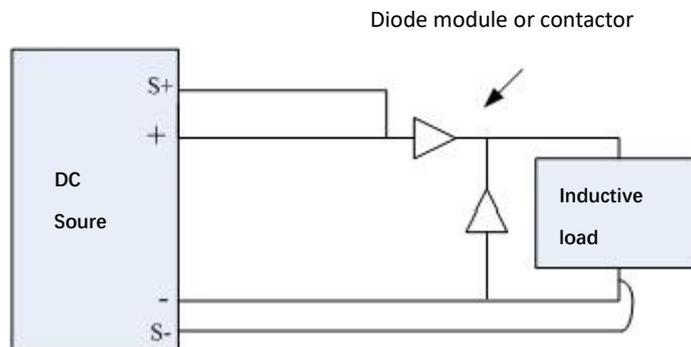

Figure 2-3 Wiring mode of inductive load
1. Wiring must be conducted as shown in Fig. 2-3: